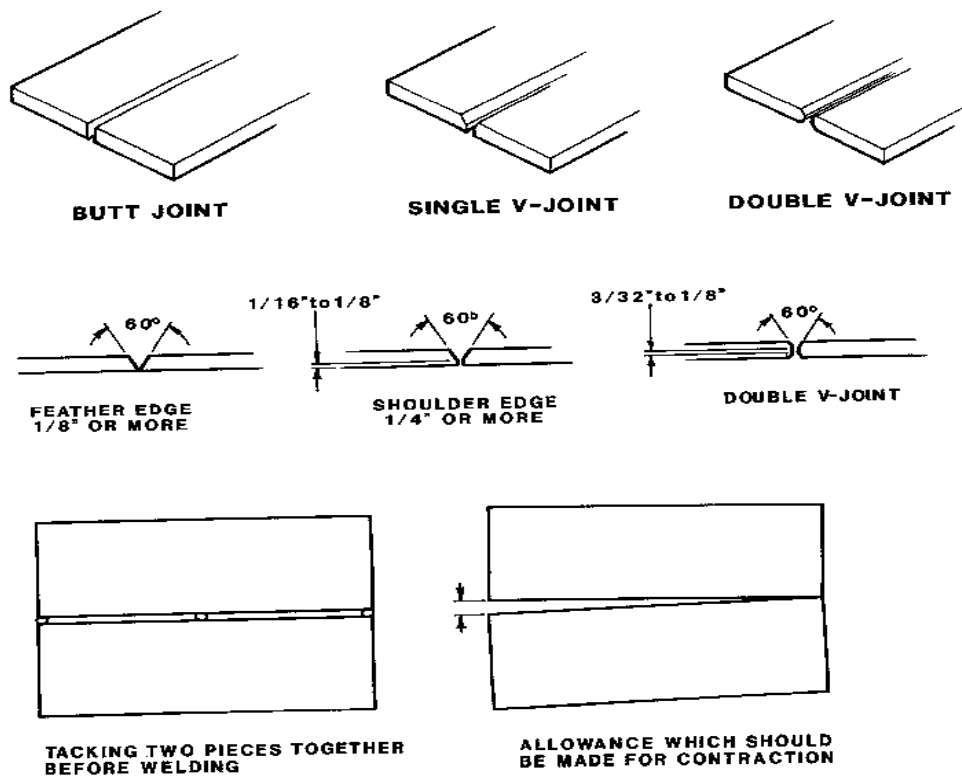

Figure 20, Preparing the Metal
1. Check the thickness of the metals to be welded. Prepare as described in Figure 20, page 27.
2. Base metals 1/8" or less do not require beveling. Thicker metals require additional preparation (see Figure 20).
1. Fuse the ends of the two pieces of metal together before welding. Long pieces may need to be fused every few inches or so along the joint (see Figure 20).